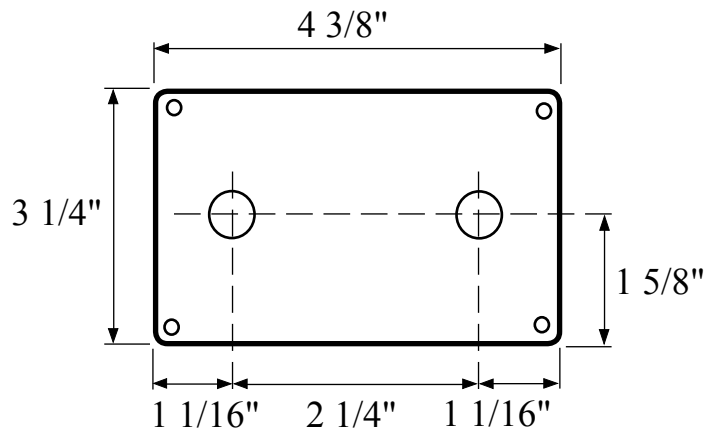

Figure 1. ICA100 Mounting Dimensions
1. Measure and mark station locations for two mounting holes. Refer to Figure 1 for layout and dimensions.